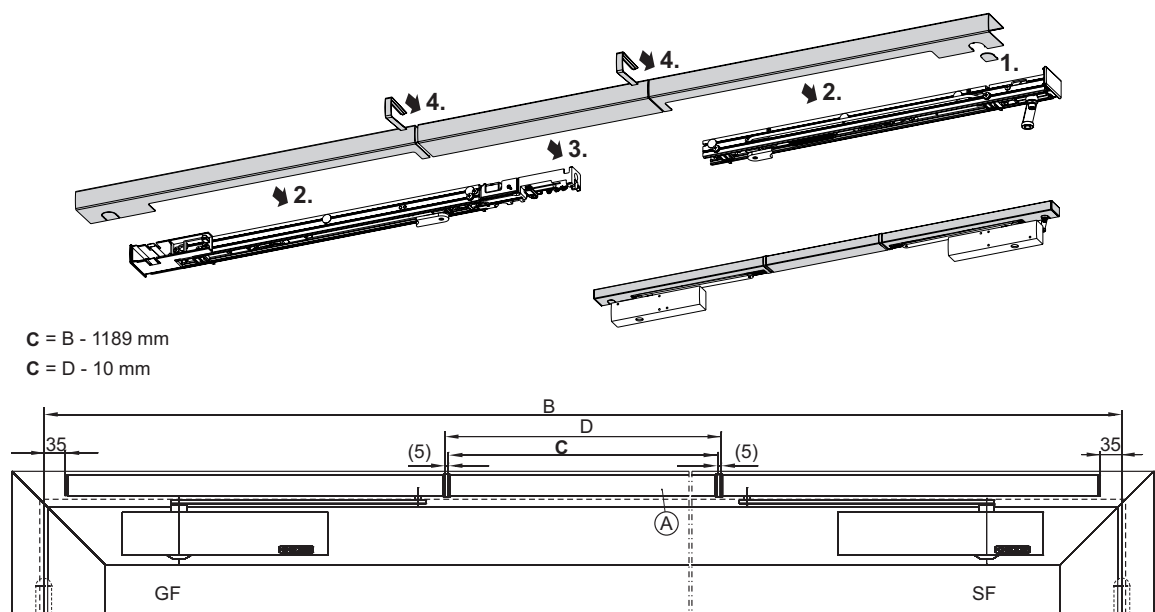

Fig. 6.8.1
- ▶ Shorten adjustable-size middle cover panel "A" to size "C" (Fig. 6.8.1).